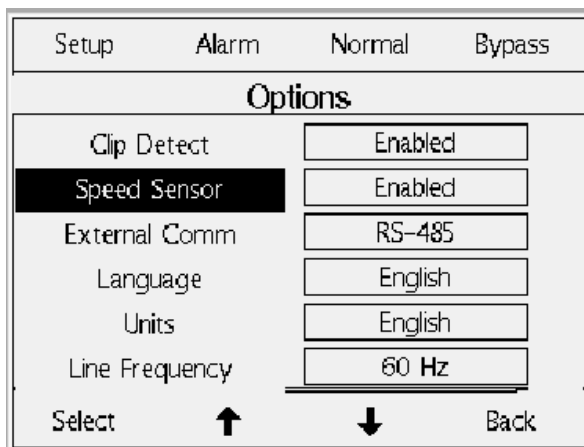

Figure 2-3. Enabling the Speed Sensor Input
1. Make sure that the speed sensor is enabled in the Options screen (see Figure 2-3). While in the Options screen, make sure that the Units option is set correctly (factory default is Metric).